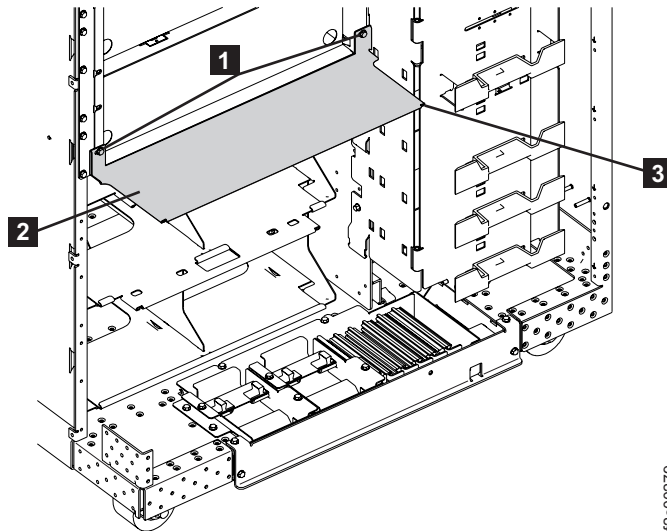

Figure 84. Air baffle
7. If you removed the Air baffle **2** earlier to allow the 208VDC bus bar to swing open, reinstall it. See Figure 84 on page 100.